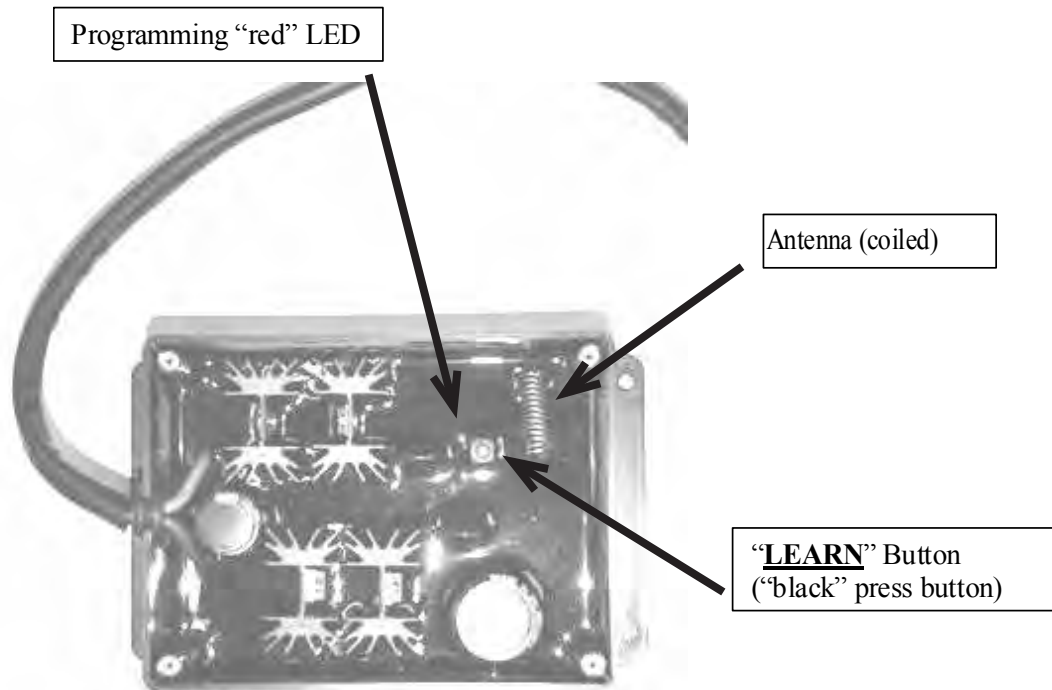

Fig. 3: Base Unit layout (Figure shown without Base Unit Cover)
1. Remove (4) screws and cover on Base Unit.
2. Power-up the Base Unit. Connect a 12V power source to the spreader 12V battery terminals and plug the engine wire harness to the Base Unit wire harness (see Male Connector in Fig. 3). **DO NOT DISCONNECT THE BATTERY TERMINALS** from the 12V source when engine is running.
5. On the Base Unit (see Fig. 3) press the black "**LEARN**" button. The "red" LED will start to blink (for approximately 15-17 seconds).
7. Verify the (5) functional buttons (Buttons #1, #3, #4, #5, & #6) on the Transmitter are working with the Spreader Unit by pressing each button, individually (the Base Unit "red" LED will flash when a Transmitter button is pressed). If Transmitter buttons are not working, repeat steps 3 – 8 or see the Trouble shooting directions.
8. When Transmitter buttons are functioning properly, re-assemble the Cover on the Base Unit with the (4) screws. Your Meyer Wireless Controller is now ready to use!